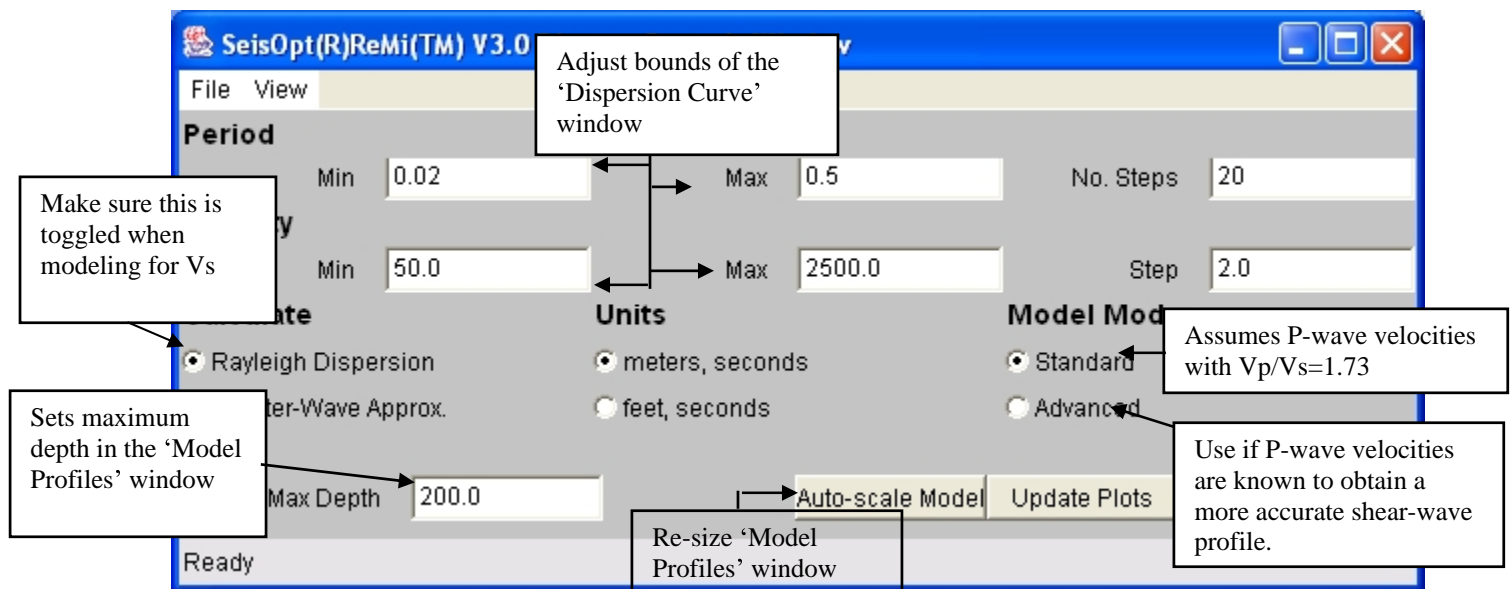
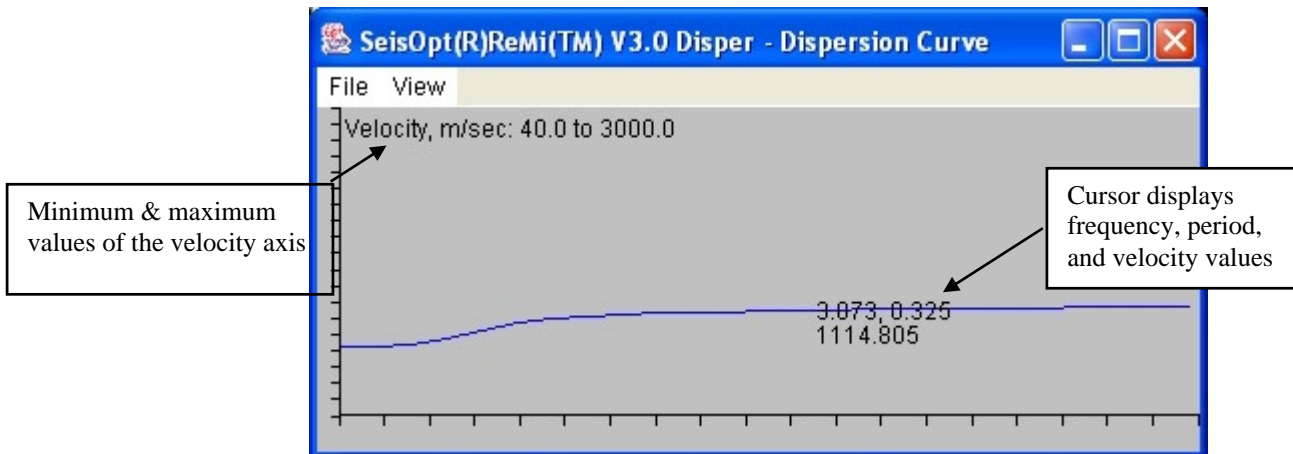

Figure 47: Set parameters for interactive velocity modeling and dispersion curve plotting.
Figure 48: Dispersion Curve window of the ReMi Disper module. This window displays the modeled and picked dispersion values.
SeisOpt ReMi Disper uses an iterative dispersion-modeling algorithm based on the method described by Saito (1979) to model the dispersion picks made using ReMi Vspect module. Double-click on the ReMiDisper desktop icon (Figure 2b) to start the Disper module. The module consists of three separate windows shown in Figures 47, 48, and 49. The objective is to model the picked dispersion curve (red filled squares in Figure 48) by clicking and dragging the shear-wave velocity profiles (red lines in Figure 49) so that the calculated dispersion curve (blue lines in Figure 48) matches the picks (red squares). The control window (Figure 47) can be used to toggle between different units (meters/second or feet/second), control the depth of the model, and magnify the image to better view and model the variations in the dispersion curve.
This will open up at the top left-hand corner of the screen (Figure 47). It contains functions that control the plot parameters of the other two windows, read / write functionality, and parameters that control the convergence and sampling criteria of the modeling algorithm. The following is a description of the parameters:
- Min: Minimum period, in seconds, of the dispersion curve being modeled. This will control the horizontal axis in the 'Dispersion Curve' window (Figure 48).
- Max: Maximum period, in seconds, of the dispersion curve being modeled. This will control the extent of horizontal axis in the 'Dispersion Curve' window (Figure 48).
- No. Steps: This controls the number of steps in the calculated period. That is more the number of steps, smoother is the calculated dispersion curve (blue line) shown in 'Dispersion Curve' window (Figure 48). The default value is 20, and usually this is sufficient for modeling picks made from a typical p-f image. But, if the user wishes to model slight variations, one could increase it to 100. Be aware that increasing the number of steps will increase the time to render each new dispersion curve. It is best to increase the number of steps after the dispersion curve has been fit and before the calculated dispersion curve is written out to disk (see Section 4.4).
- Min: Minimum velocity of the model and dispersion curve. This will control the vertical axis of the 'Dispersion Curve' window (Figure 48). Also, make sure this value is less than the minimum velocity used while performing the interactive velocity modeling in the 'Model Profiles' window (Figure 49). Else, a 'root not found' error will occur. The values are either in meters/second or feet/seconds, depending on the choice made by the user.
This window will open up below the ‘Controls’ window. When first opened, this will have a blue line showing the modeled dispersion curve (Figure 48).
Unlike the p-f image (Figure 34), the horizontal axis in this plot is the period (inverse of the frequency) in seconds and the vertical axis is phase-velocity, in meters/second or feet/second, depending on the units chosen in the ‘Controls’ window (see Section 4.1.1). The minimum velocity and minimum period (maximum frequency) are at the left lower corner of the plot. Velocities and period increase linearly in the vertical and horizontal direction, respectively. The maximum and minimum values of the period, frequency, and velocity are displayed on the screen. Changing the limits in the ‘Control’ window (Figure 47, Section 4.1.1) can change these values. Moving the cursor anywhere in the window will display the frequency, period, and velocity values. When the picked dispersion values are imported into the ReMi Disper module, they will be displayed as filled red
- Vertical red lines: These are the shear-wave velocities for each layer. The value is either in meters/second or feet/second and is set in the ‘Controls’ window (Section 4.1.1). One can manipulate the velocity model by clicking on the line with the left mouse button and dragging the mouse over the plot with the left button held down. Each segment of the red line, indicating velocity of a particular layer, can be move independent of the other. As the velocity profile is being changed, the synthetic (calculated) dispersion curve (blue line in Figure 48) in the